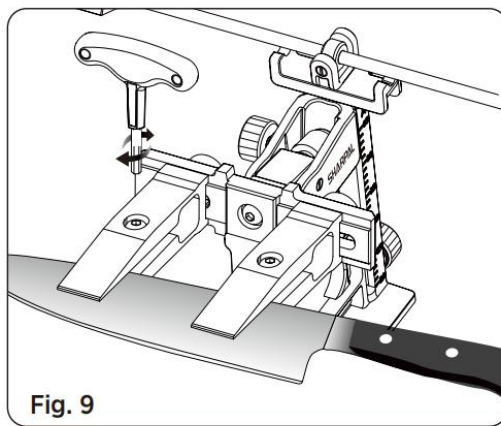

Fig. 9
3. Adjust the blade position so the distance from the end of each clamp to the cutting edge is equal for both clamps. Once the blade's position is properly adjusted, securely tighten the fastening screws on both clamps using the wrench. (See Fig. 9)